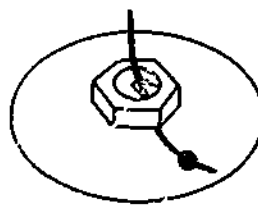

Figure 10-11
12. Place the nut on the bolt and tighten it so that the cable is secured to the piston and the brass end of the cable is beyond the nut (Figure 10-11).